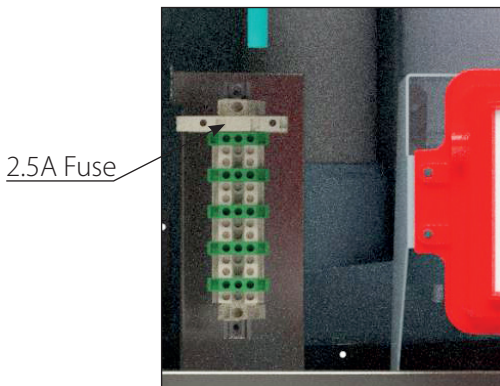

Fig. 25 - Terminal Strip Location
- A 2.5A fuse is also located on the terminal strip, to protect the outputs. Refer to *Fig. 25*.
1. Connect a dedicated 120 VAC/15A service to the line voltage terminals located internally in the lower left corner, as shown in *Fig. 25 below*.
2. Connect the CH1 & CH2 circulator wiring to the respective line voltage terminals located internally in the lower left corner, as shown in *Fig. 25 on the left*. This circulator is typically used to supply heat to the central/space heating loop.
3. Connect the DHW circulator wiring to the line voltage terminals located internally in the lower left corner, as shown in *Fig. 25 on the left*. This circulator is typically used to supply heat to an indirect hot water heater.
4. Connect the boiler system pump wiring to the line voltage terminals located internally in the lower left corner, as shown in *Fig. 25 on the left*.
1. Connect the DHW aquastat or temperature sensor wires to low voltage terminals X4-1&2 located at the bottom of the CTRLMax control module as shown in *Fig. 25*.
3. Connect the external limit wires to the Manual Reset Limit or Auto Reset Limit low voltage terminals located on the lower right corner of the CTRLMax control module housing as shown in *Fig. 25*.
1. Connect the system temperature sensor wires to low voltage terminals X5-3&4 located at the bottom of the CTRLMax control module as shown in *Fig. 25*.